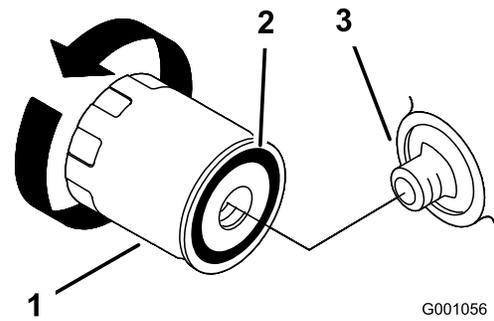

Figure 22
3. Apply a thin coat of new oil to the rubber gasket on the replacement filter (Figure 22).
4. Install the replacement oil filter to the filter adapter, turn the oil filter clockwise until the rubber gasket contacts the filter adapter, then tighten the filter an additional 2/3 to 1 turn (Figure 22).
2. Remove the old filter and wipe the filler adapter gasket surface (Figure 22).